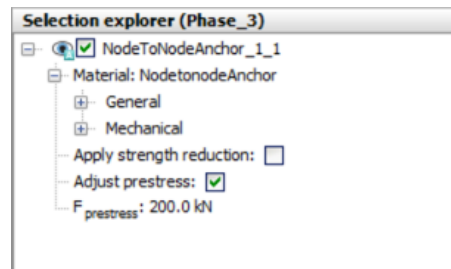

Figure 2-5: Node-to-node anchor in the Selection explorer
- 12 Click on the **Adjust prestress** checkbox. Enter a prestress force of 200kN as displayed in Figure 2-5 \(p. 52\).